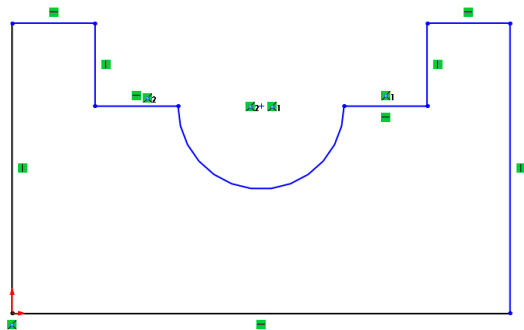

Figure 2-64 Final sketch for Tutorial 2
- d. Draw the sketch using the **Line** tool, refer to Figure 2-64.
- 18. Press the F key to modify the drawing display area. The final sketch for Tutorial 2 with the grid display and the **Shaded Sketch Contours** settings turned off is shown in Figure 2-64.